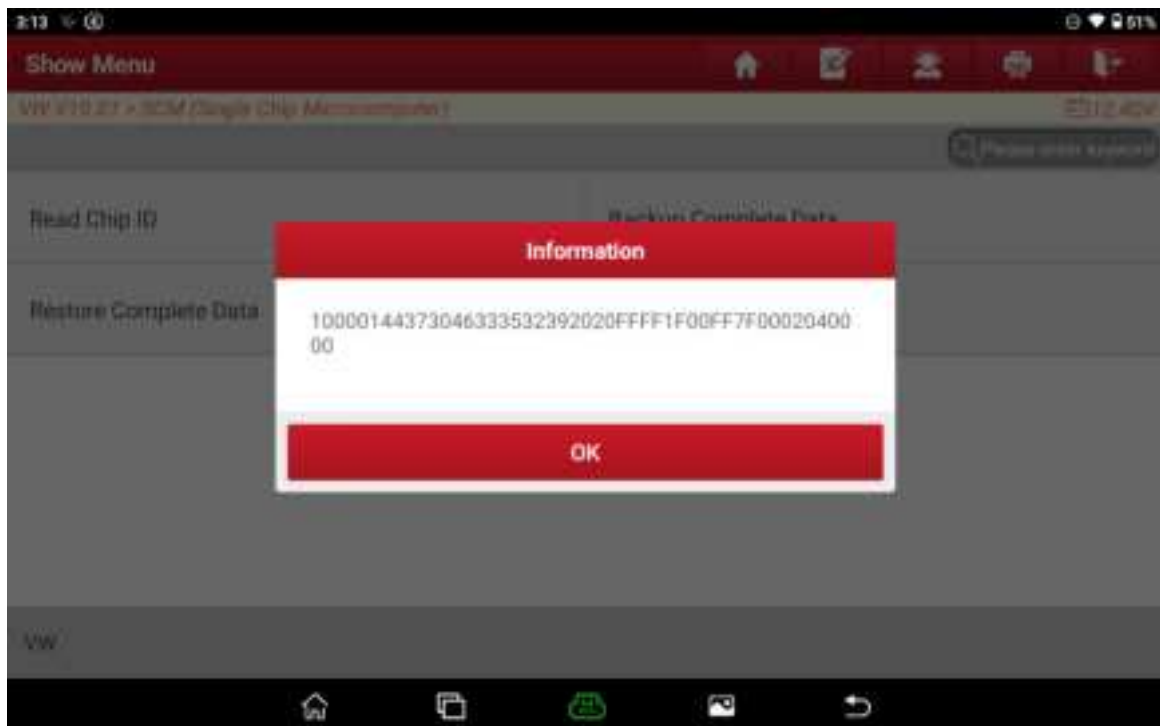

Figure 13
12. The chip ID is successfully read and the wiring is normal. Select OK, as shown in Figure 13.